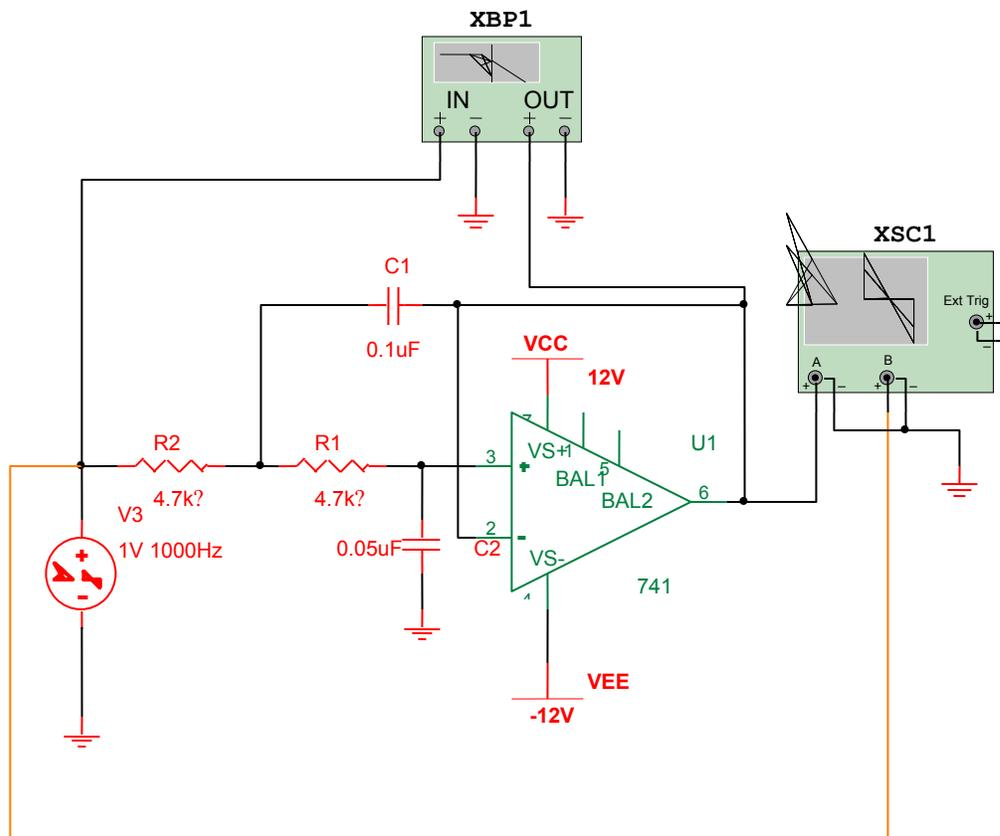
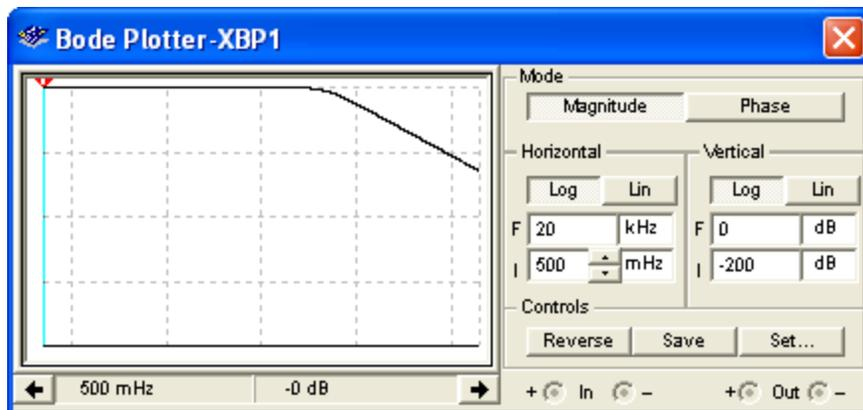
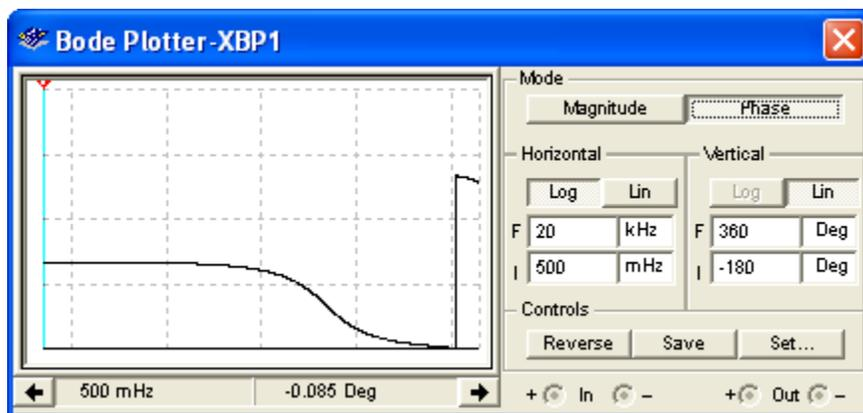

FIGURE E1-1
FIGURE E1-2
FIGURE E1-3
1. The EWB Multisim implementation of a Butterworth Second Order Low-Pass Filter is provided in Fig. E1-1. Your first step is to construct this filter in EWB Multisim. After completing your design, start the simulation and use the oscilloscope to verify that the circuit is functioning properly. To do this, connect the oscilloscope to both the input and output of the filter and verify that the output sine wave is  $180^\circ$  out of phase with respect to the input sine wave. The output signal will also be attenuated with respect to the input (gain less than 1). The connections you need to make to the oscilloscope are shown in Fig. E1-1.
Connect the Bode plotter as shown in Fig. E1-1. To use the Bode plotter, double-click on it and set the sweep frequency to an initial value (**I**) of 500 mHz and a final value (**F**) of 20 kHz. Both the Vertical and Horizontal settings should be set to Log. Adjust the initial and final level settings for the vertical axis as needed to display the data results. For this exercise click on the Magnitude button. The settings for the Bode plotter and the expected simulation results are shown in Fig. E1-2.
1. In this exercise, you will make phase measurements on the Butterworth Second Order Low-Pass Filter provided in Fig. E1-1 using the EWB Bode plotter. Your first step is to double-click on the Bode plotter and select on the phase mode by clicking on the Phase button. Change the initial (I) phase setting to -180° and final (F) phase setting to 360°. The settings for the Bode plotter and the expected simulation results are shown in Fig. E1-3. You may need to rerun the simulation after making the changes.